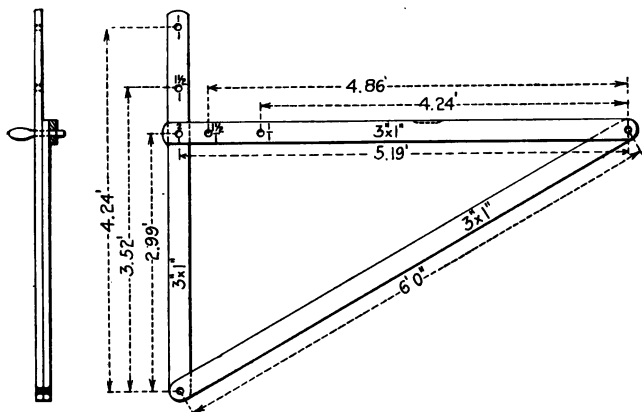

FIG. 44.—Slope Gage.
**Slope gage.** A gage (fig. 44) for determining the slope of any embankment is a convenient and inexpensive device. It is formed of three pieces of 3-in. by 1-in. pine with a fixed diagonal distance of 6 ft. from pin to pin. The other two pieces have each three holes which are marked 1-1, 1½-1 and 2-1; when they are fastened together at these corresponding points by a moveable pin, and the top piece (which is provided with a level) is held level, the diagonal piece will show the slope desired. This tool may be folded up when not in use by simply taking out the pin in the upper left-hand corner. Experience is the only successful teacher in enabling one to previously deter-